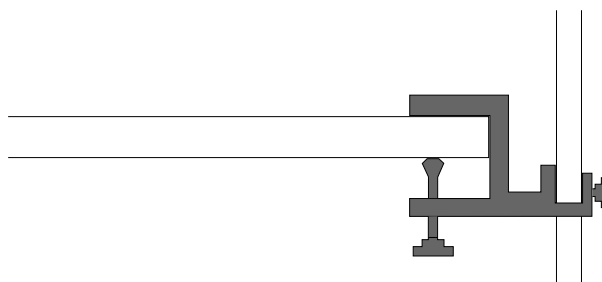

Figure 1
2. Use the Universal Table Clamp or Large Rod Base to secure a support rod near your computing device, as shown in Figure 1.